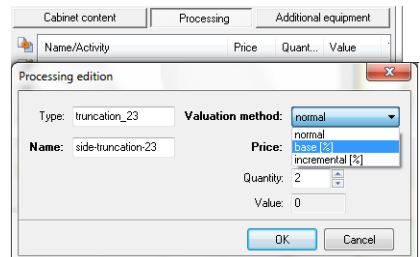

Fig. 300 – adding a processing item to the valuation
- **Add item processing**  – adds a new processing item (Fig. 300);